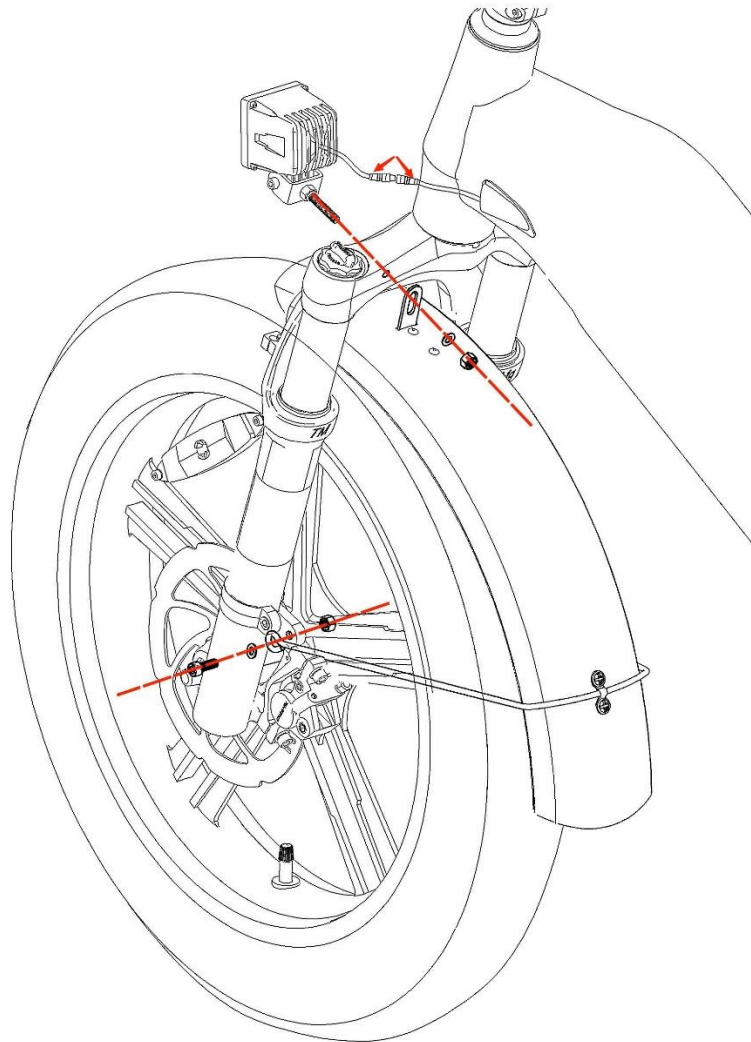

Figure 2
- 2) Insert the front wheel in between the front fork on the bike. Be sure to align the disc between the brake caliper as shown in Figure 2. Balance the length of the axel at the left and right side of the fork to make room for the washers and nuts.